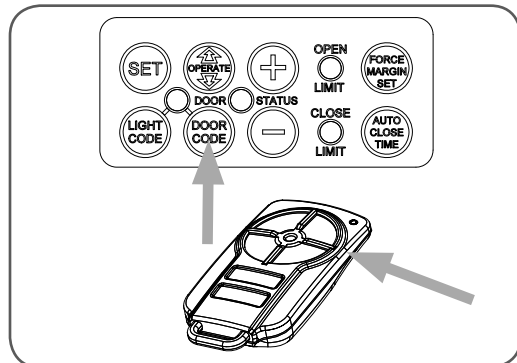

fig 34
- Place a piece of timber approximately 40mm high on the floor directly under the door (**Fig. 34**).
- Briefly press the DOOR CODE button two (2) times, then press it again and hold (will beep three times on third press (**Fig. 34**)).
- Press one of the four buttons on the transmitter for two (2) seconds, pause for two (2) seconds, then press the same button again for two (2) second.